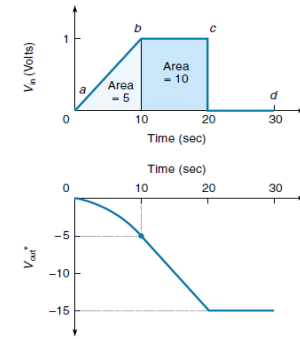

Figure 7.14 The voltage waveform of an integrator circuit. ($V_{out} = -V \cdot s$ in this case because $RC = 1$.)
- The integrator concept can be explained by the sample waveforms shown in the Figure 7.14 (which assumes $RC = 1$).